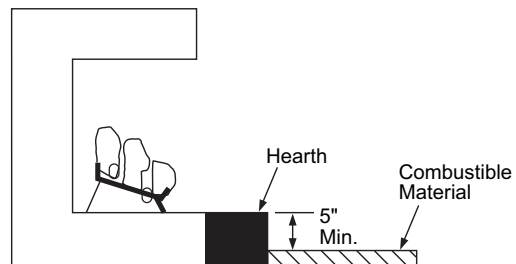

Figure 9 - Minimum Fireplace Clearances Above Combustible Flooring
- If combustible materials are less than 14" to the fireplace, you must install appliance at least 5" above the top surface of combustible flooring including tile and carpet (*see Figure 9*).